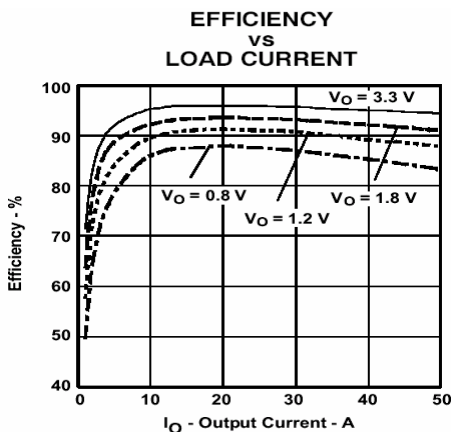
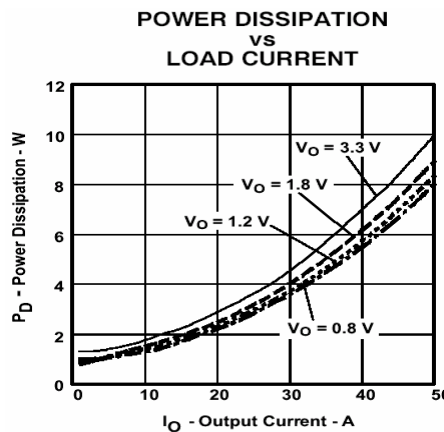

Figure 5
Figure 6
- (3) The electrical characteristic data has been developed from actual products tested at 25°C. This data is considered typical for the converter. Applies to Figure 5 , and Figure 6.